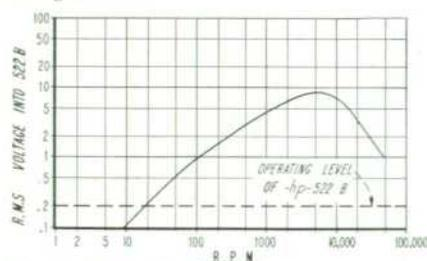

Fig. 3. Typical voltage characteristic of hp-508A when used with hp-522 counter. Generator open-circuit voltage is approximately three times that shown above.
Speed-wise, the generator can be used over a range from 15 rpm up to a rated maximum of 40,000 rpm. Fig. 3 shows the output voltage delivered by the generator over this range to the 522 counter3. The generator's open-circuit voltage is approximately 3 times that shown in Fig. 3.
3In early production models the input sensitivity of the Model 522B for frequency measurements was 2 volts peak instead of 0.2 volt rms indicated in Fig. 3.
general, measurements with this model, the 508B, are made as described above, except that the reading presented by the counter would be in units of revolutions per hundred seconds. The 508B, in combination with an oscilloscope, is also useful in obtaining higher definition of mechanical motion than is obtained with the 60-cycle model. Price and general specifications for the two models are the same, except that the voltage curve shown in Fig. 3 for the 508A is displaced to the left for the 508B.
- OUTPUT VOLTAGE: Sufficient to operate -hp- 522 Frequency Counter over range from 50 rpm to 40,000 rpm (see Fig. 3). Supplied at a coaxial type jack (UG-185/U).